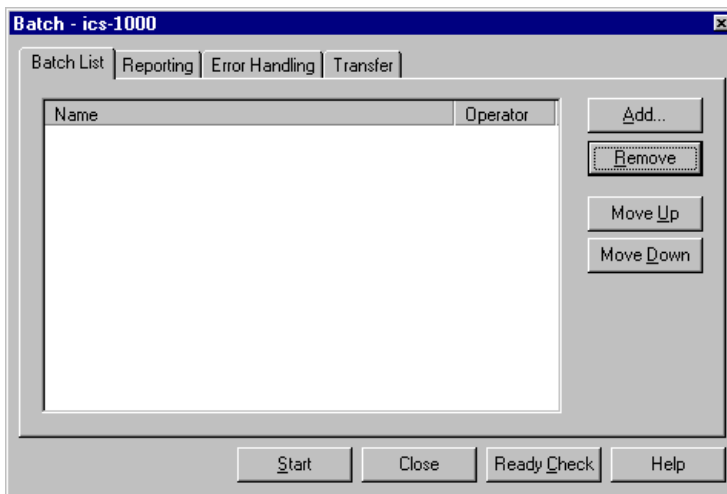

Figure 3-10. Batch Dialog Box
- To start the sample processing, make sure the System Control panel is open (see Section 3.3) and is the active window. Then, select **Batch>Edit**. The Batch dialog box opens (see Figure 3-10).